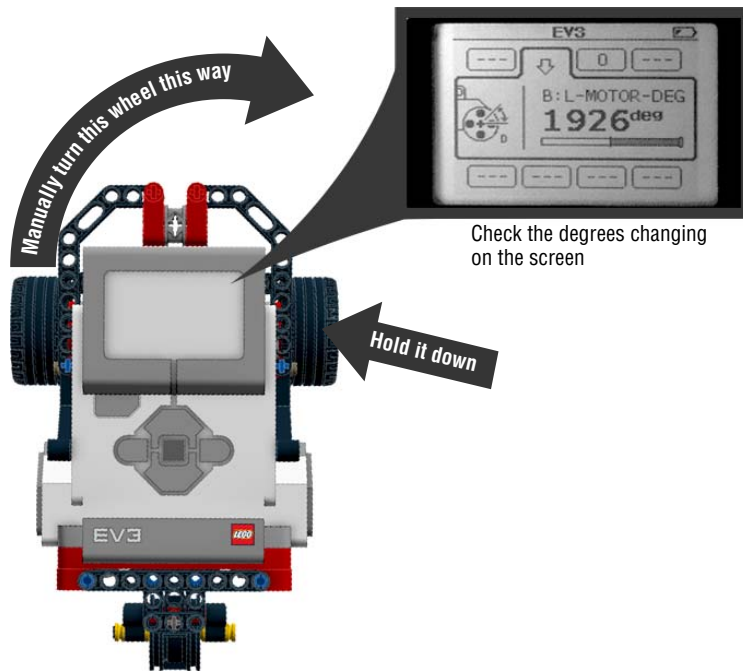

Figure 4-20: Manually turn the Auto-Driver to see how many degrees its left motor should go to make a full turn.
3. Now pick up the Auto-Driver and set it down so that the swivel wheel is facing you. Hold down the right motor with one of your hands and manually turn the Auto-Driver until it makes a full turn. Do you see the degree numbers change on the screen (see Figure 4-20)?